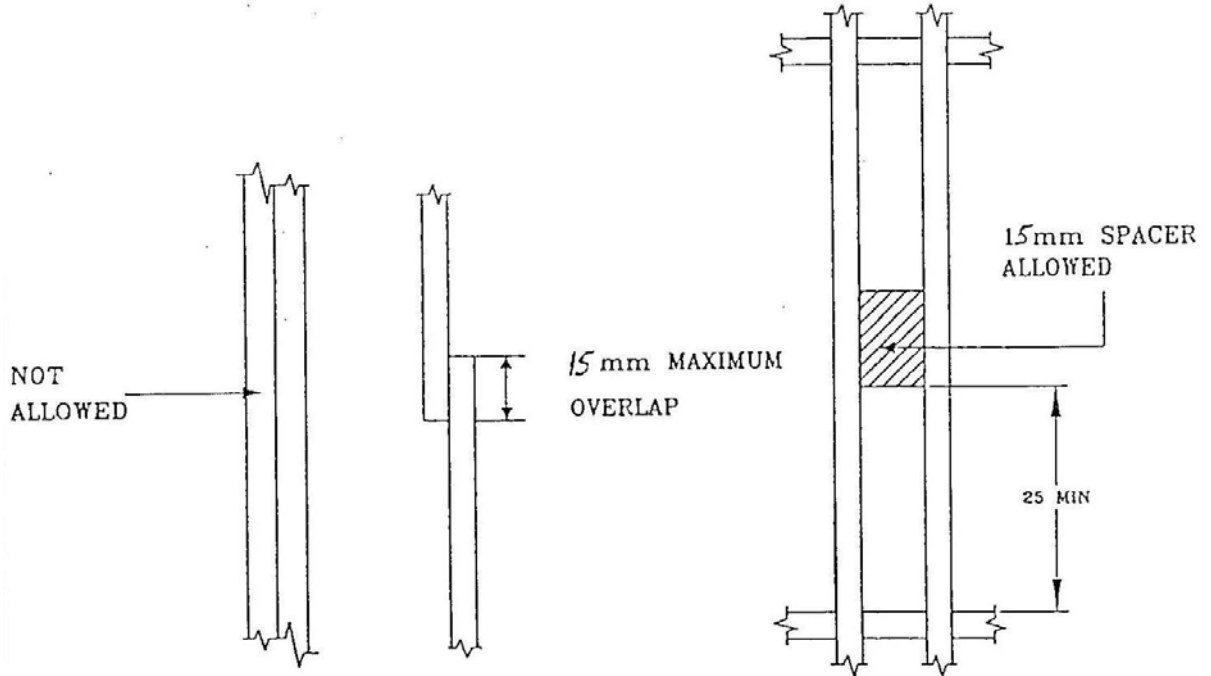

FIGURE 5
7. Members of the bridge cannot be laminated together along the length of the members. The allowable overlapping of one member to another is 15mm. Two parallel members may be connected, using "spacers" (See Figure 5). Parallel members may be glued to each other only where they come into contact with cross members, or where spacers (of maximum length 15mm) are used. These spacers between two parallel members must be 25mm or more apart (clear distance, not centre-to-centre distance, see Figure 5).